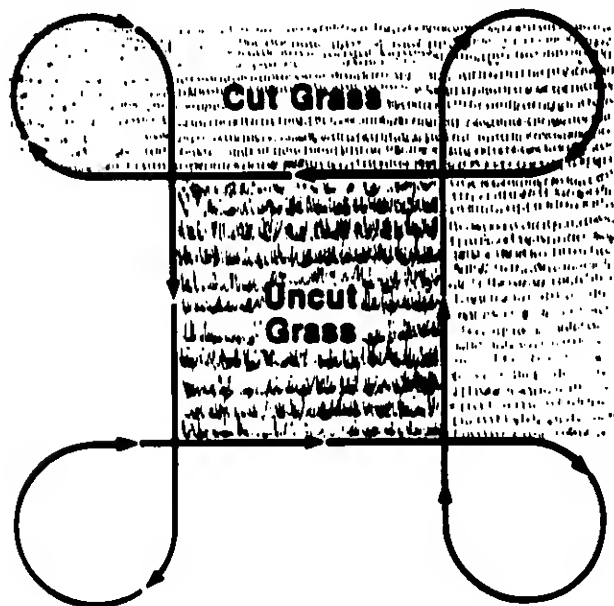

Figure 36
4. Follow the mowing procedure shown in Figure 36.